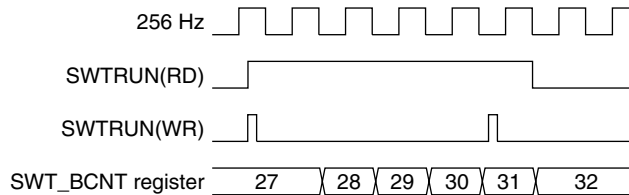

Figure 12.5.2 Run/Stop Control Timing Chart
- The timer switches to Run/Stop status synchronized with the 256 Hz signal falling edge after data is written to SWTRUN. When 0 is written to SWTRUN, the timer stops after counting an additional “+1.” 1 is retained for SWTRUN reading until the timer actually stops. Figure 12.5.2 shows the Run/Stop control timing chart.